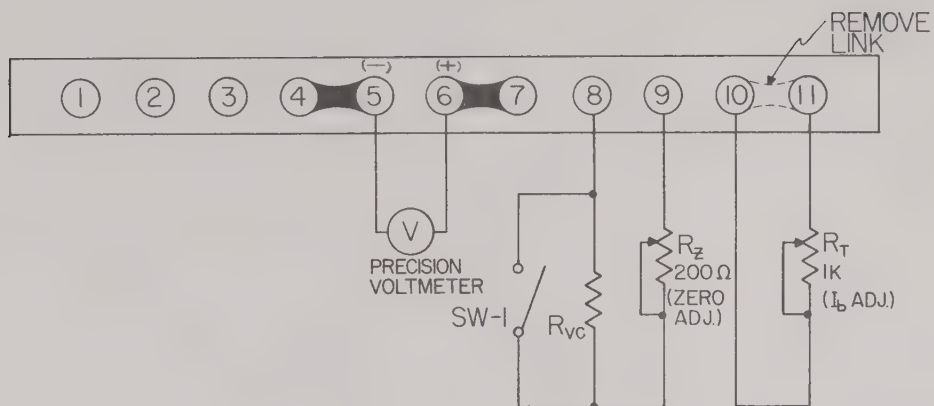

FIG. 3-4. PROGRAMMING RATIO CALIBRATION, METHOD #3
- a) Connect calibration set-up as shown in Fig. 3-4.